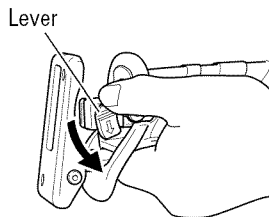

Fig. 3
- (2) Push the lever in the direction of the arrow mark shown in Fig. 3 marked on the lever.
- (2) After you have pushed the lever in the direction of the arrow mark shown in Fig. 3, turn the blade so it faces downward. The blade should fall out by itself. If the blade doesn't fall out, pull it out by hand.